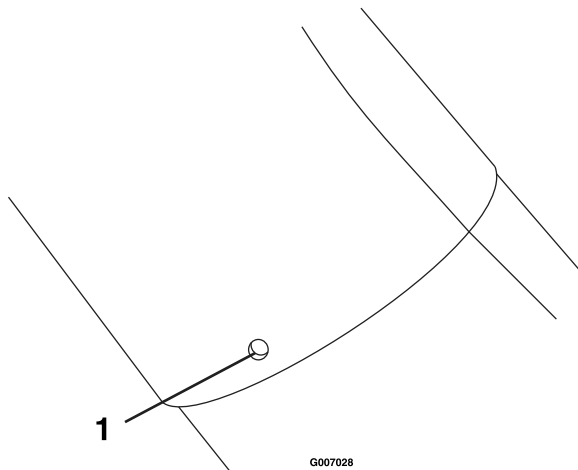

Figure 18
26. If the lower tube is replaced, drill three 7/32 inch holes in the lower tube using the upper tube holes as reference. See Figure 18.